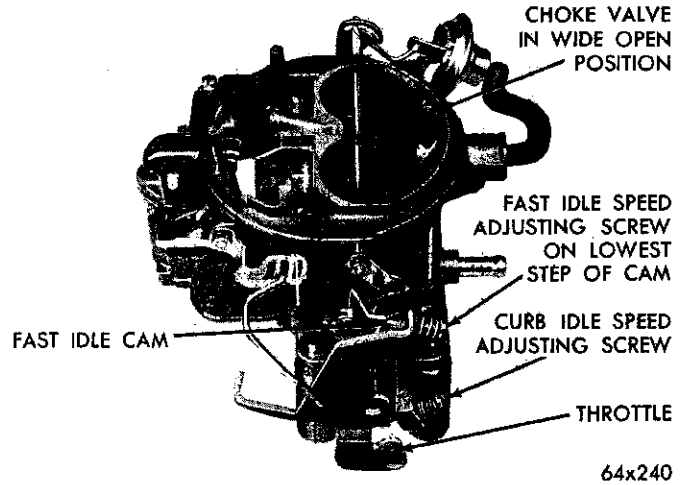

Fig. 24—Fast Idle Speed Adjustment (On the Car)
(1) With the engine running and the transmission in the neutral position, open the throttle slightly.
(2) Close the choke valve about 20 degrees then allow the throttle to close. Return the choke valve to the open position.
(3) The fast idle speed adjusting screw should be contacting the lowest step on the fast idle cam, as shown in Figure 24.
(4) With the engine warmed-up to the normal operating temperature, turn the fast idle speed adjusting screw in or out to secure 700 r.p.m. (Automatic Transmission) or 600 r.p.m. (Manual Transmission). Reposition the cam and throttle after each adjustment.